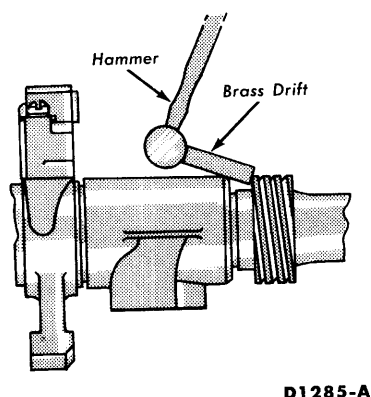

FIG. 26—Speedometer Drive Gear Removal
7. Using a hammer and a small brass drift, tap the gear evenly and alternately (Fig. 26) to prevent cocking it on the shaft. Tap the gear gently to prevent damaging it.